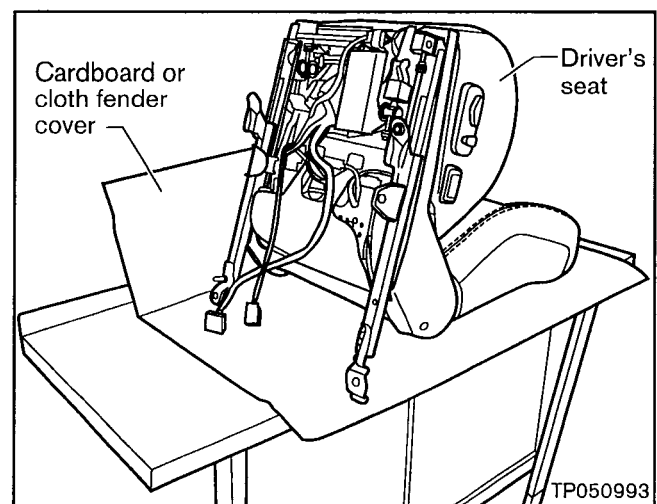

Figure 6
2. Carefully remove the seat from the vehicle and place it on a clean, dry work surface as shown in Figure 6.